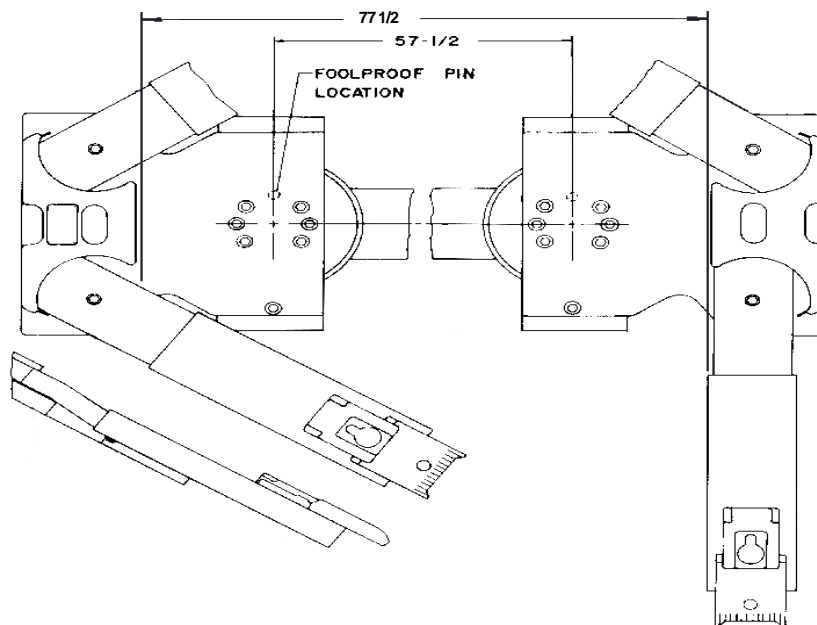

Fig. 7
12. ASSEMBLING OF SUPERSTRUCTURE. (FIG. 7).